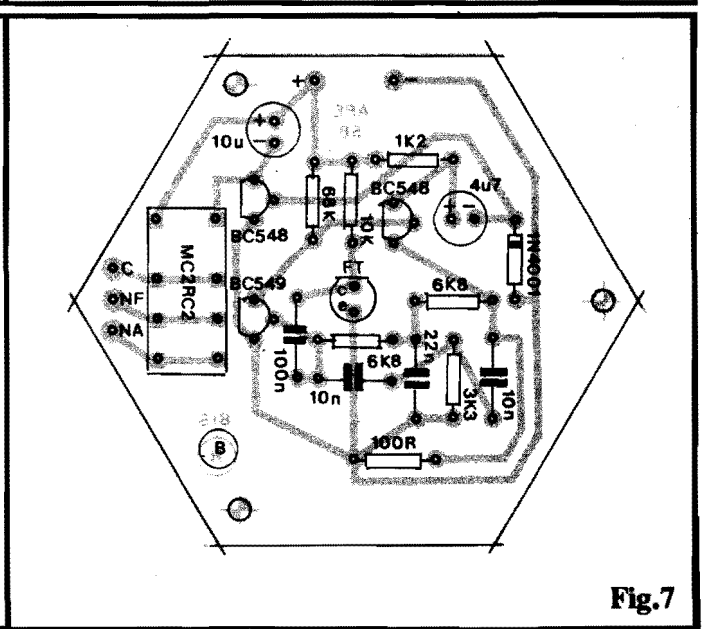

Fig.7
- FIG. 7 - "CHAPEADO" DA MONTAGEM (RECEPTOR)